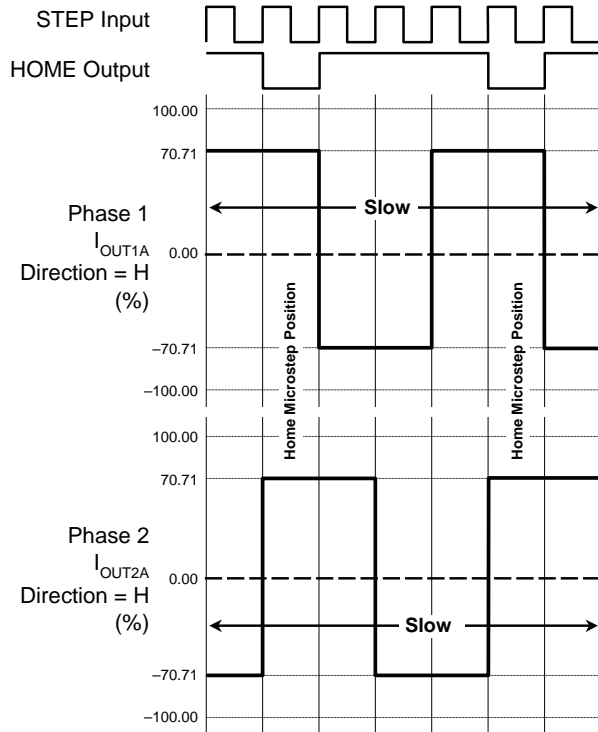

Figure 2. Decay Mode for Full-Step Increments
At power-on or reset, the translator sets the DACs and the phase current polarity to the initial Home state (shown in figures 2 through 5), and the current regulator to Mixed decay mode for both phases. When a step command signal occurs on the STEP input, the translator automatically sequences the DACs to the next level and current polarity. (See table 2 for the current-level sequence.) The microstep resolution is set by the combined effect of inputs MS1 and MS2, as shown in table 1.
**RESET Input ( RESET).** The  $\overline{RESET}$  input (active low) sets the translator to a predefined Home state (shown in figures 2 through 5), and turns off all of the DMOS outputs. The HOME output goes low and all STEP inputs are ignored until the  $\overline{RESET}$  input is set to high.
**Home Output (HOME).** The HOME output is a logic output indicator of the initial state of the translator. At power-on, the translator is reset to the Home state (shown in figures 2 through 5).
**Mixed Decay Operation.** If the voltage on the PFD input is between  $0.6 \times V_{DD}$  and  $0.21 \times V_{DD}$ , the bridge operates in Mixed decay mode, as determined by the step sequence (shown in figures 2 through 5). As the trip point is reached, the device goes into Fast decay mode until the voltage on the  $R_{Cx}$  terminal decays to the same level as voltage applied to the PFD terminal. The time that the device operates in fast decay is approximated by: